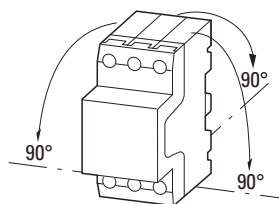

Figure 7: Approved mounting positions of the PKZM0-.../XTPR...BC1NL and PKZM0-...-T/XTPT...BC1NL motor-protective circuit-breakers
► Mount the motor protective circuit breaker only as shown in → Figure 7.